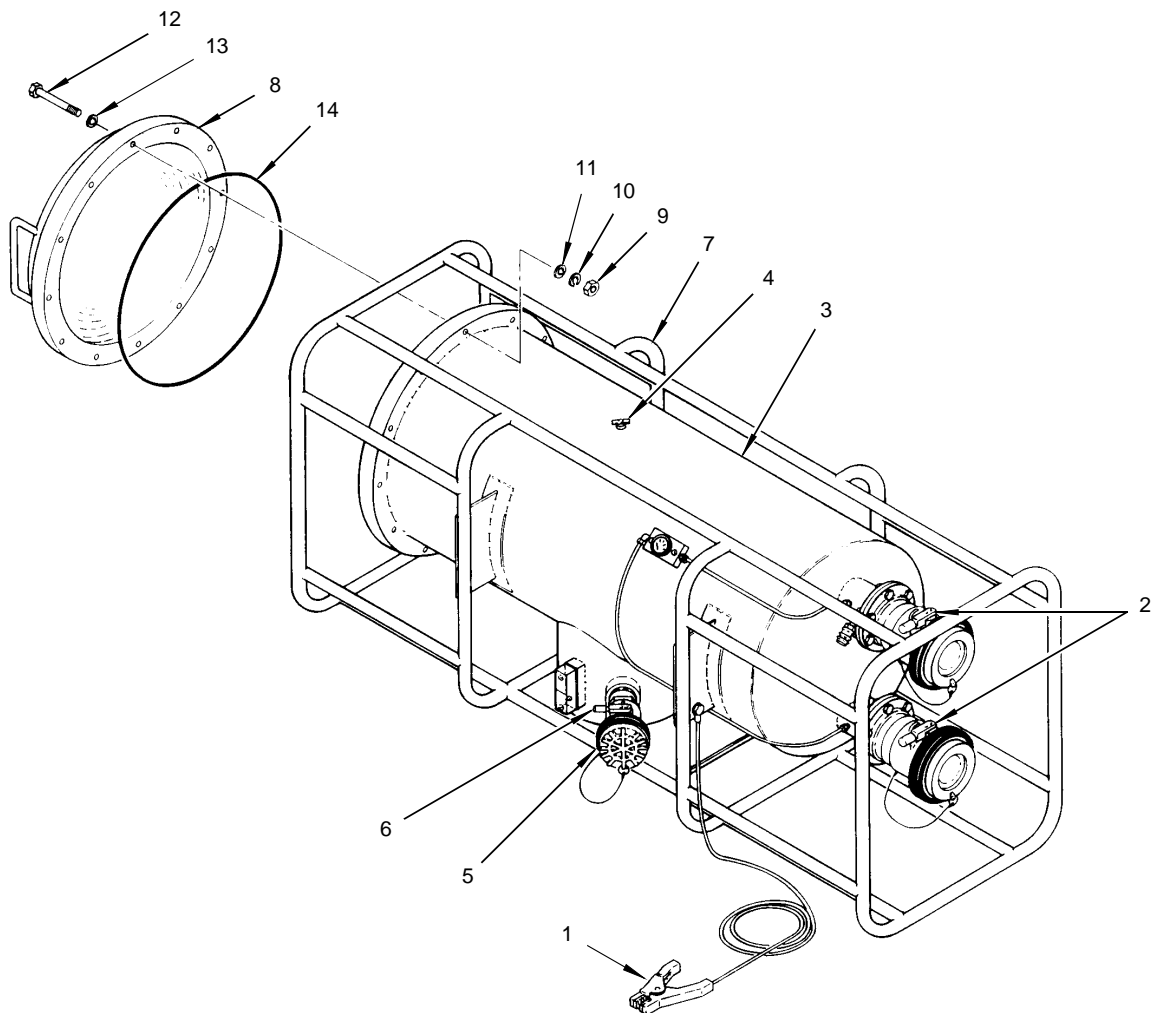

Figure 1. Filter Vessel Cover O-Ring Replacement
**REMOVAL** (Figure 1)
1. Connect liquid fuel filter-separator ground cable (1) to a grounding rod.
2. Close inlet and outlet valves (2) on filter vessel (3) and open manual vent valve (4).
**INSTALLATION** (Figure 1)
1. Clean O-ring groove and filter vessel (3) seating surface.
2. Install O-ring (14) in groove.